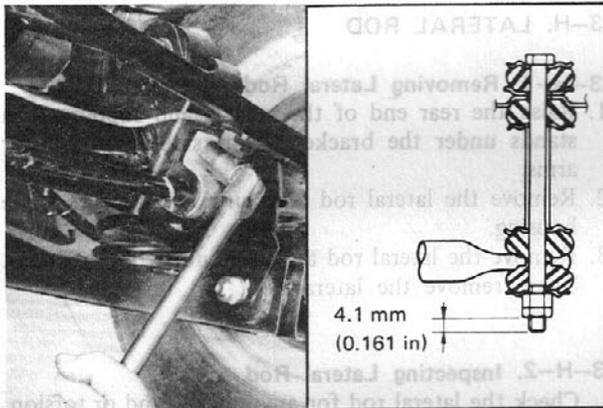

Fig. 13-48
3. Tighten the control rod nut until the dimension between the nut and bolt end is 4.1 mm (0.161 in) as shown in Fig. 13-48.